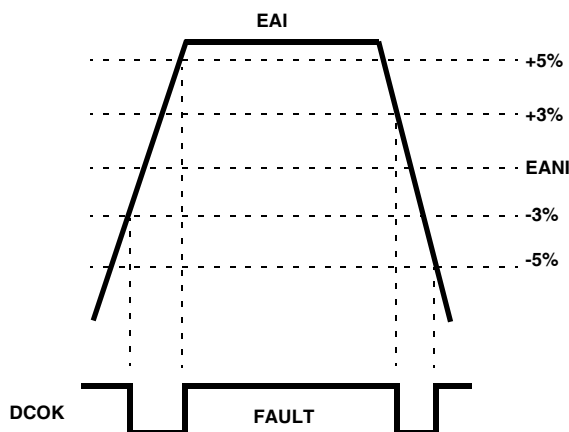

FIGURE 11. UNDERVOLTAGE-OVERVOLTAGE WINDOW
- DCOK pin is an open drain output capable of sinking 5mA. It is low when the output voltage is within the UVOV window. The static regulation limit is  $\pm 3\%$ , while the  $\pm 5\%$  is the dynamic regulation limit. It indicates power-good when the EAI is within -3% to +5% on the rising edge and within +3% to -5% on the falling edge, as shown in Figure 11.